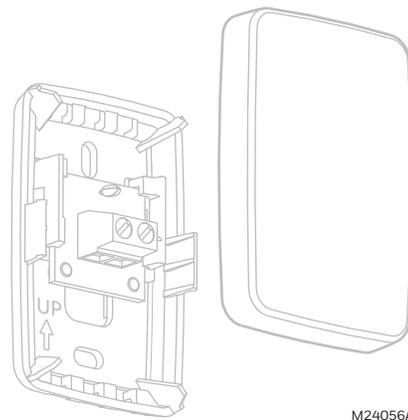

Fig. 36. Remove the cover
1. 1. Remove the cover from the remote sensor see Fig. 36.